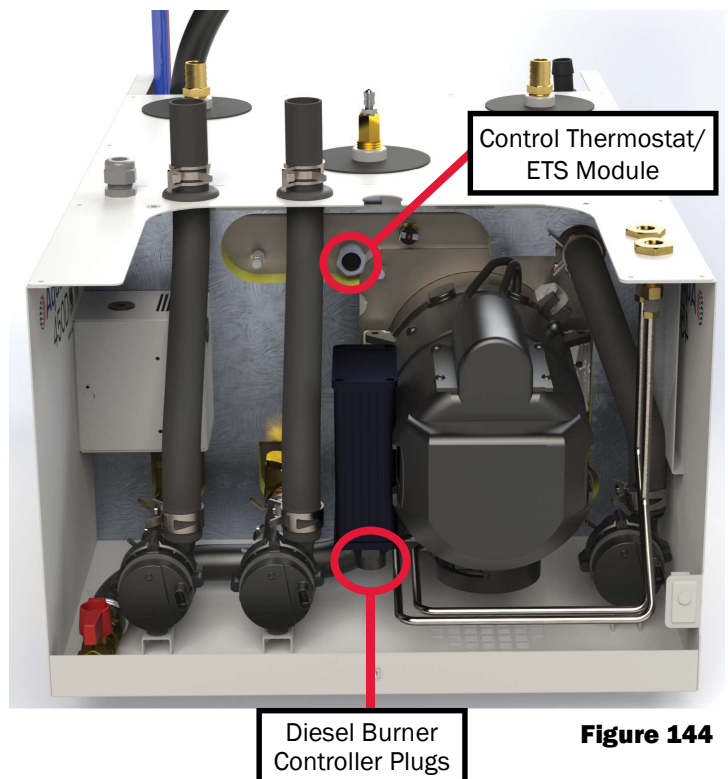

Figure 144
- Unplugging the diesel burner controller (Figure 144)